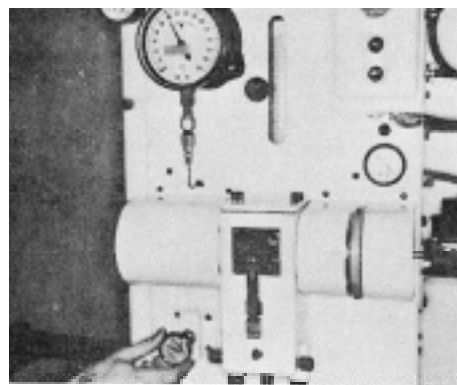

Fig. 6-1-87, F60137. Adjust to 120 psi
14. Adjust the fuel pressure by turning the regulator knob until the pressure gauge shows 120 psi [827 kPa]. If this pressure cannot be achieved, the trouble probably is due to a sticking air regulator, or to a worn gear pump. Fig. 6-1-87.